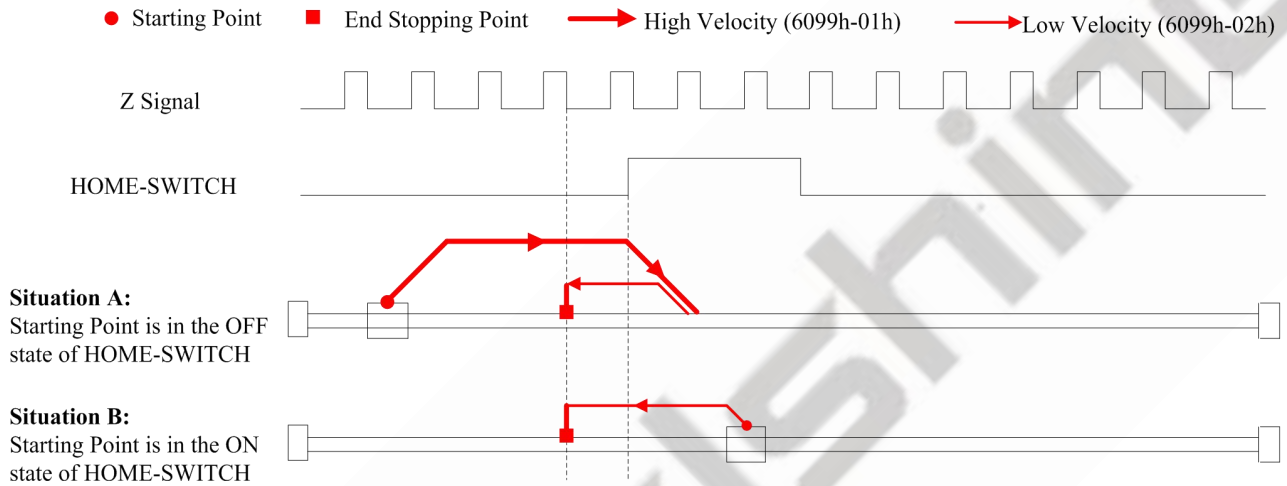

Figure 7-3: Method 3
- If the motor starting point is not at the HOME-SWITCH position like Situation A, it will move toward positive direction at Fast Homing Velocity (6099-01h) until the HOME-SWITCH goes ON, then the motor stops quickly and starts to move toward negative direction at Low Homing Velocity (6099-02h). The motion stops at the first effective Z signal after leaving the HOME-SWITCH, as shown in Figure 7-3.